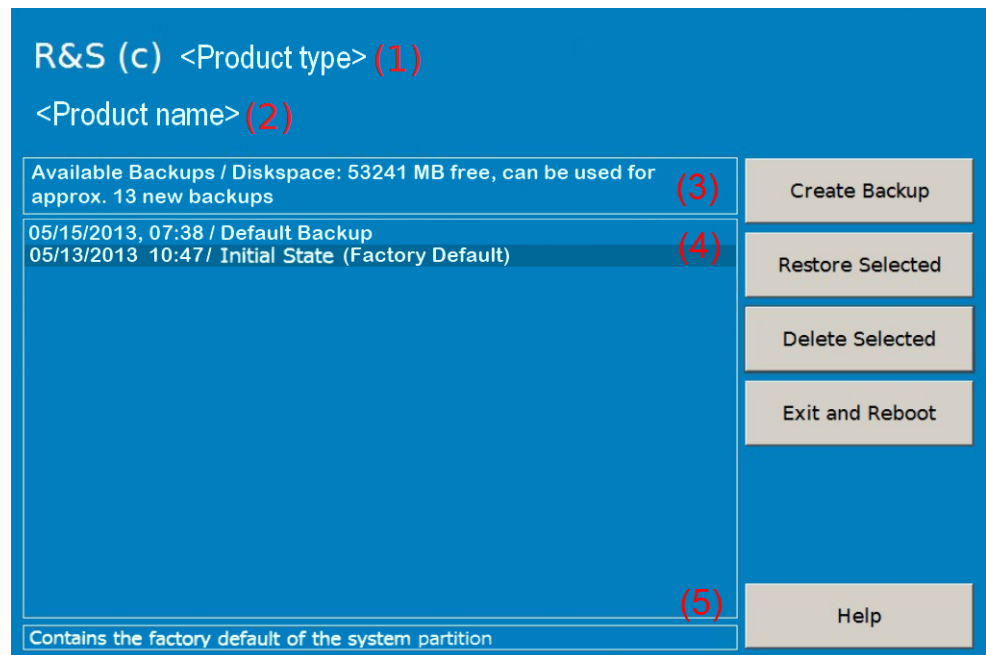

Figure 8-1: Main dialog (example)
1. In the main dialog (see Figure 8-1), select "Create Backup".
1. In the main dialog (see Figure 8-1), select the backup you want to restore.
1. In the main dialog (see Figure 8-1), select the backup you want to delete.